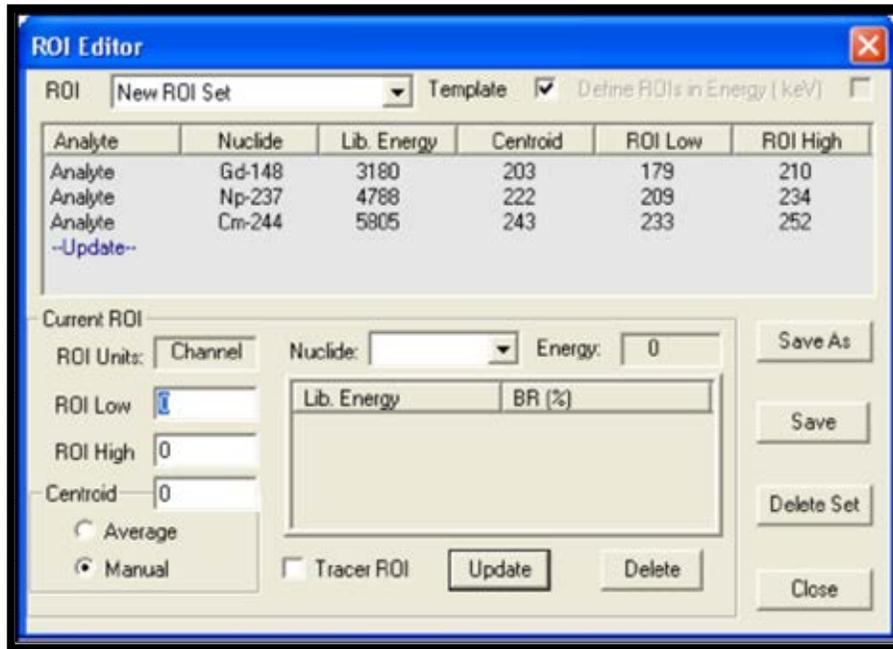

Figure 162. ROI Editor
- f. In the ROI Editor, click the **Nuclide** drop list and choose  $^{148}\text{Gd}$ , then click the **Update** button. The values selected will now be displayed in the main section of the ROI Editor. Repeat this procedure for  $^{244}\text{Cm}$  and  $^{237}\text{Np}$  (Figure 162).